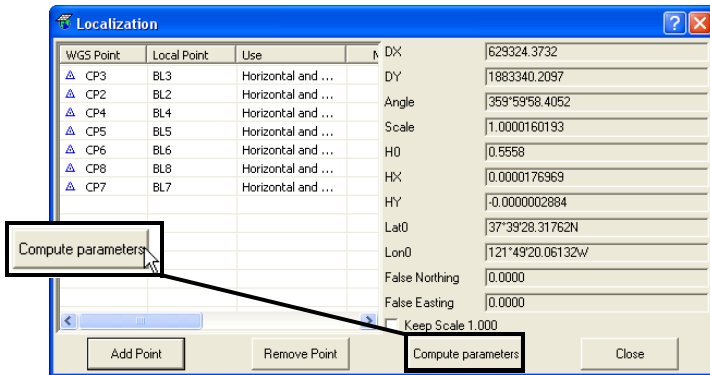

Figure 6-40. Localized Coordinate Points
6. Click **Compute parameters** to localize the GPS coordinates (Figure 6-40).